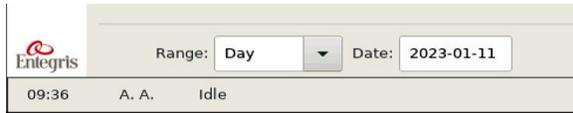

Figure 31. Range and date selection.
- Using the default settings shown in Figure 31, the plot will report the values for D10, D50, and D90. You can change these values to any number between 1 and 99.